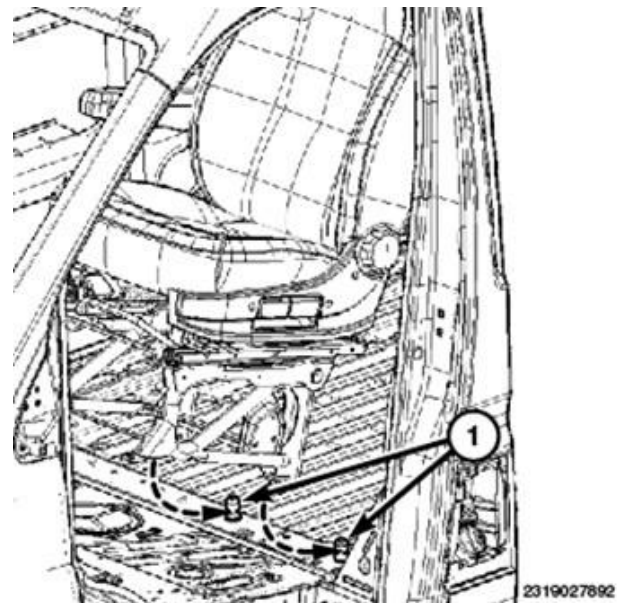

Figure 8 – Seat Riser Rear Studs
26. **Vehicles equipped with passenger side bench seat:** Position the seat in the vehicle while aligning the seat riser onto the rear studs (1) (Figure 8).